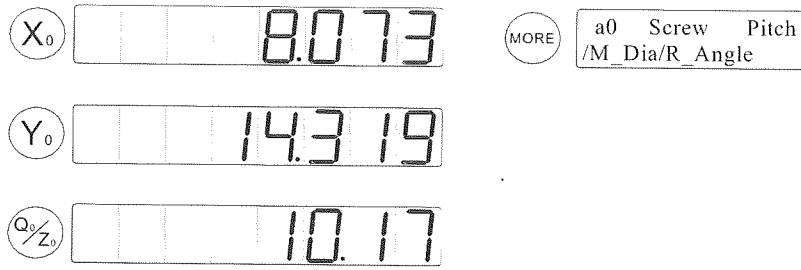

figure 2-65
- 7) Continue the process until all requisite points of the line L1 have been targeted and entered. And then target the line L2, L4. The Screw Feature data will be displayed as in figure 2-65 and the